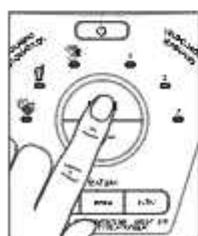

Fig. 22
4. Once you have chosen the automatic program and the desired texture selection, press start/stop button (Fig. 22).
5. To change your selection, press start/stop button to cancel the program (Fig. 22). Choose the desired automatic program and texture selection. Press start/stop button to start the program (Fig. 22).